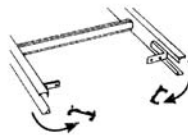

figure 1
1. Remove plastic tips from base of ladder section and set aside. (figure 1)